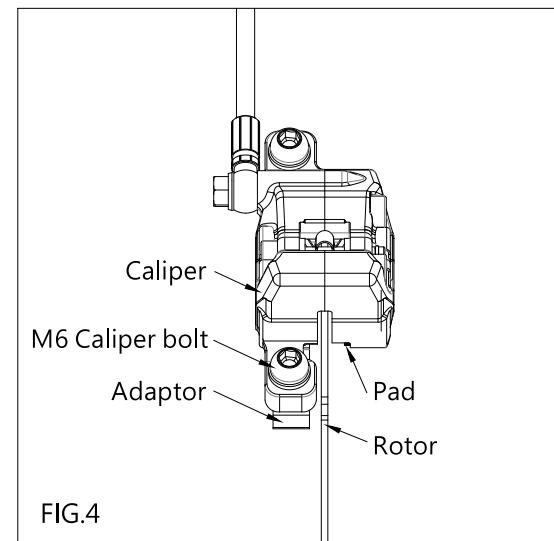
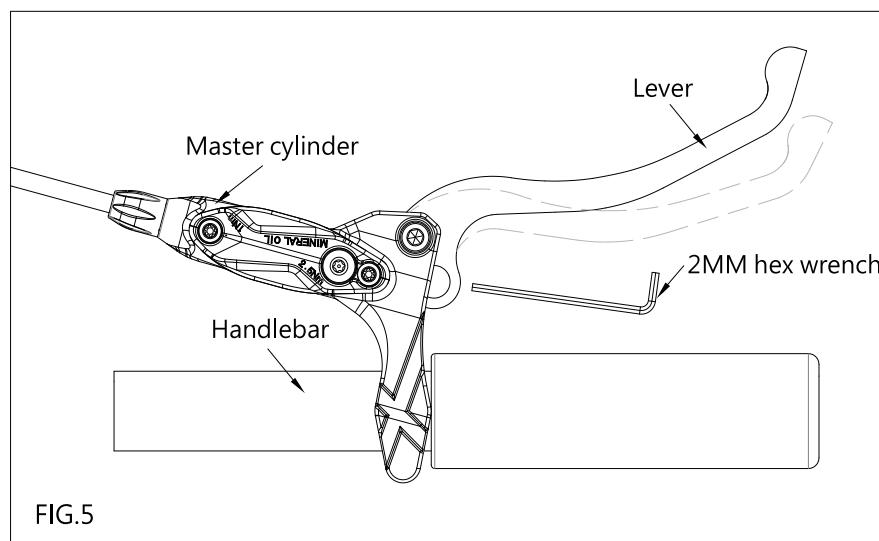

FIG.4
FIG.5
- 1) Gently pump the lever several times, and then hold steady, which makes the caliper clamp the disc and adjusts to the middle position of the disc (FIG.4). Tighten M6 caliper fixing bolts at a torque of 8~10 Nm (71~89 in. lbs.).
- 2) Check for any noise or abnormal friction by turning the wheel. If detected, loosen M6 caliper fixing bolts, repeat Step 1), and adjust the caliper position until it turns freely without friction noise. (FIG.4) Adjust the holding space between the lever to fit your personal choice by using a 2mm hex wrench. (FIG.5)